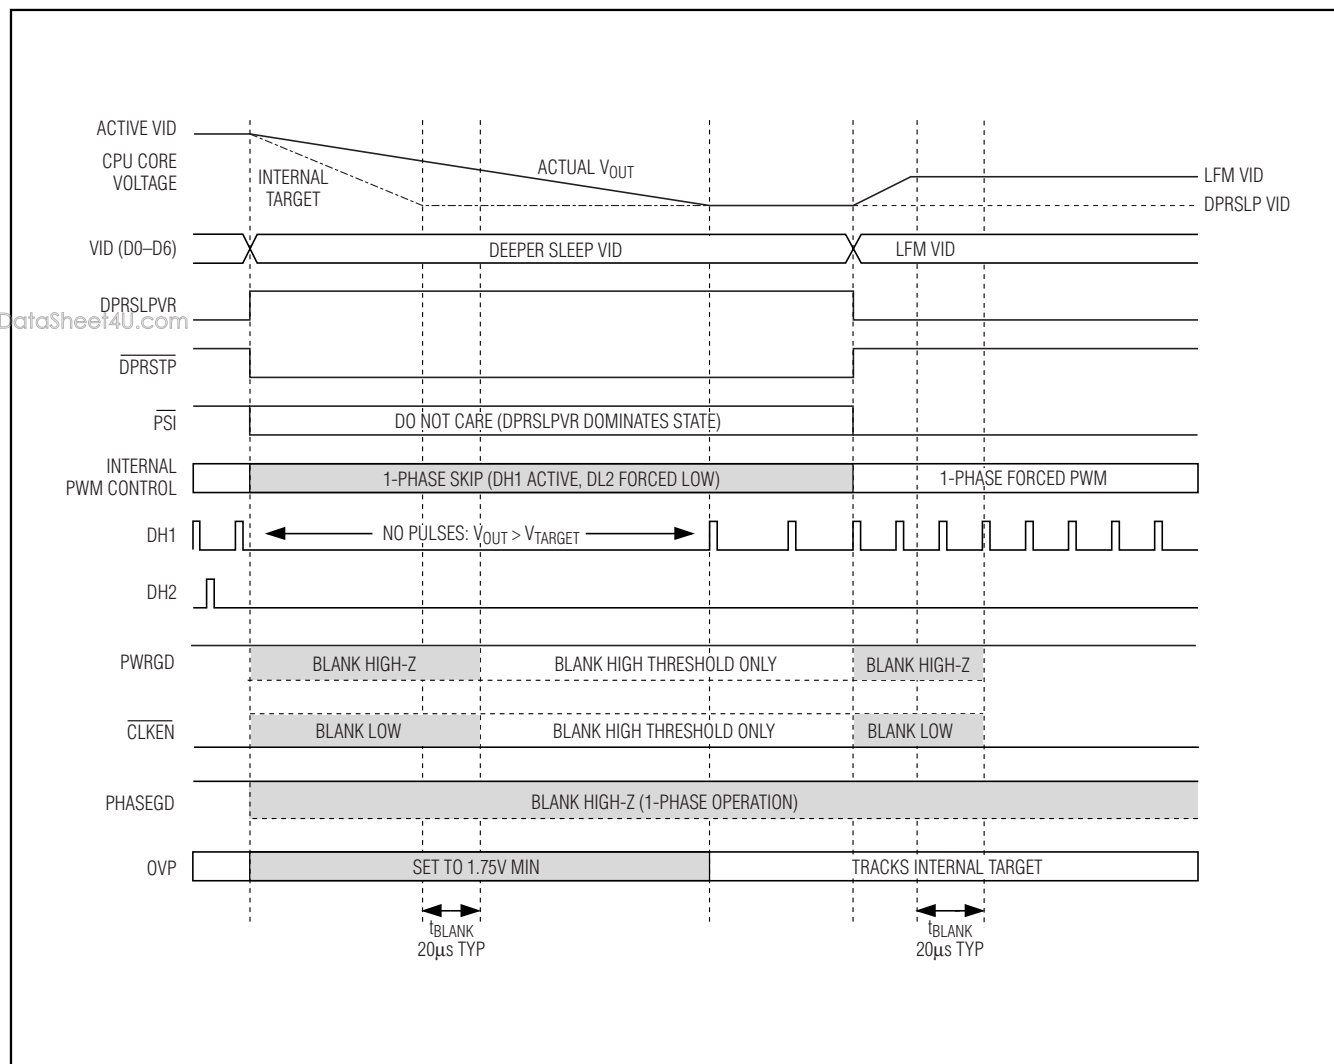

Figure 6. Slow C4 Transition
- **Slow C4 Deeper Sleep Exit:** When exiting deeper sleep (DPRSLPVR high, \overline{DPRSTP} pulled high) while the output voltage is regulating to the deeper sleep voltage, the MAX8770/MAX8771/MAX8772 remain in 1-phase skip mode and ramp the output voltage to the LFM DAC code provided by the processor at 1/4 the slew rate set by R_{TIME} . The controller blanks PWRGD, PHASEGD, and \overline{CLKEN} (forced high impedance) until $20\mu s$ after the transition is completed. See Figure 6.